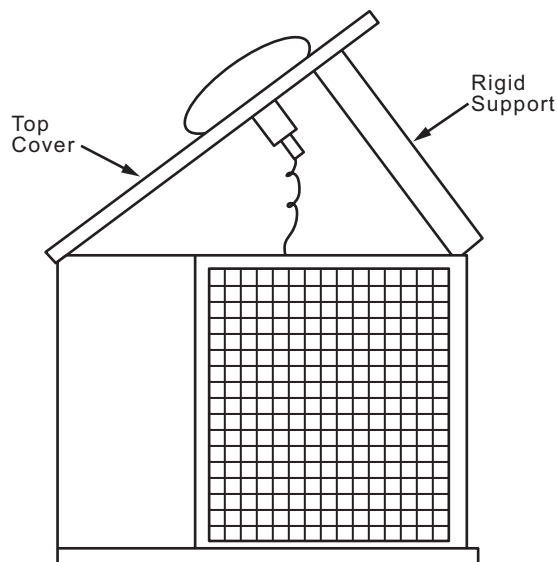

Fig. 35 — Pivot and Support Top Cover
2. Remove screws holding rear corner post and top cover in place. Pivot top cover up 12 to 18 inches (305 to 457 mm) and support with a rigid support. See Fig. 35.